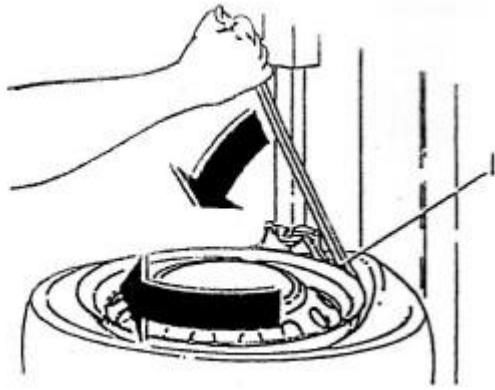

Fig.17
- Raise the bead with special lever and hook it onto the tongue of the bead ( as fig.17 18) .